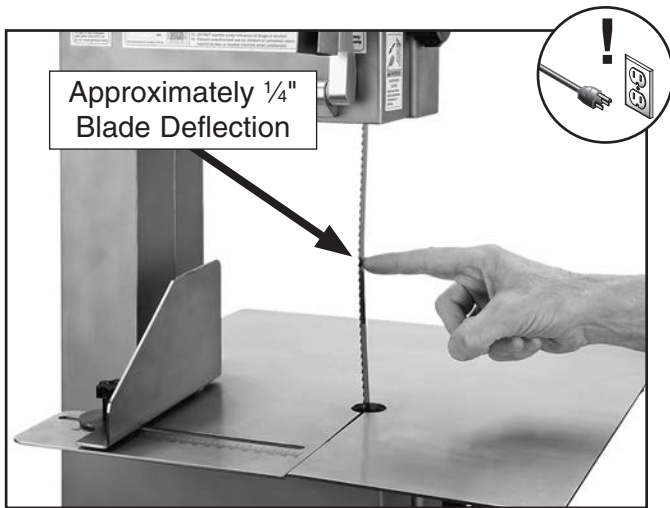

Figure 5. Checking blade deflection.
4. Use blade tensioning knob on top of saw to tension blade until there is approximately $\frac{1}{4}$ " deflection when moderate pressure is pushed against middle of blade, as shown in **Figure 5**.